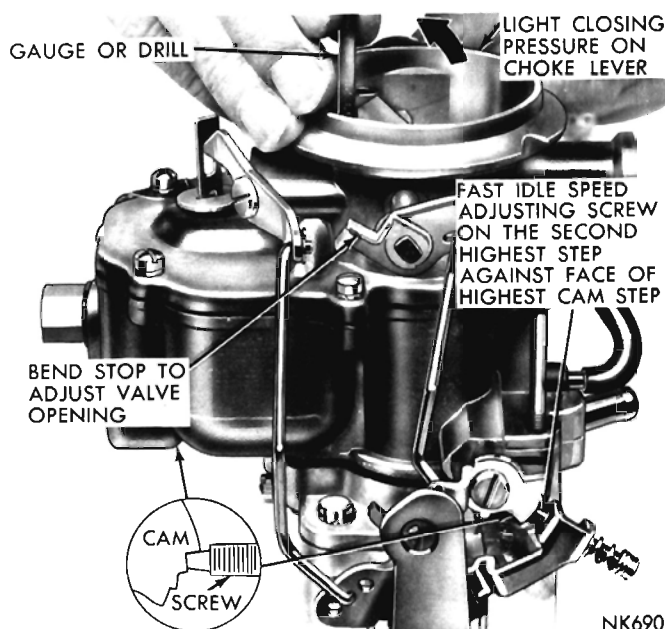

Fig. 13—Fast Idle Cam Position Adjustment
- (1) With the fast idle speed adjusting screw contacting the step on the fast idle cam shown in (Fig. 13), move the choke valve toward the closed position with light pressure. Insert a $\frac{7}{64}$ inch (manual trans. or automatic trans.) drill or gauge between the choke valve and the wall of the air horn.
- (2) An adjustment will be necessary if a slight drag is not obtained as the drill or gauge is being removed.
- (3) If an adjustment is necessary, bend the stop of the shaft lever, using Tool T109-22, until the correct valve opening has been obtained. Refer to (Fig. 13).